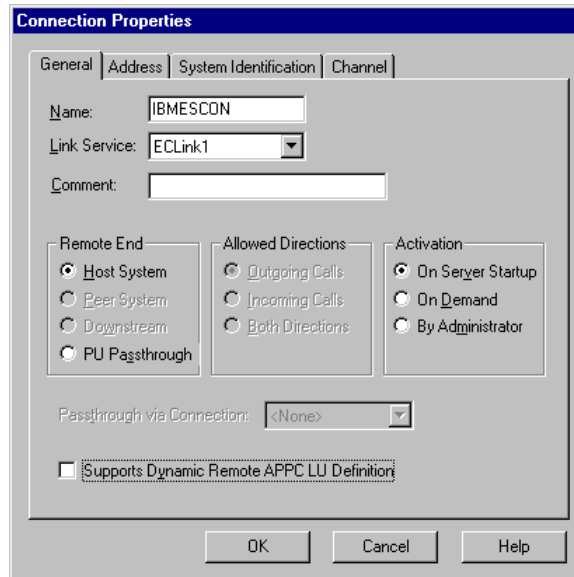

Figure 8-12. Connection Properties
3. The **Connection Properties** screen (Figure 8-12) will appear. You may change the Connection Name and Comment and set the Activation option. Select a Channel Link Service; connecting this connection to the ESCON adapter. Then click the **Address** tab.